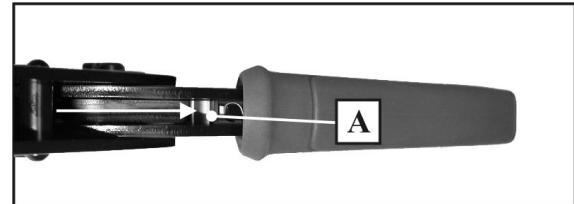

Fig. 2.
Using small screwdriver or similar tool, push the ratchet relief (A), located inside moving handle, (Fig. 2.) in direction as shown to unblock the tool, and remove obstruction before continuing with the work. With this tool **only** modular plugs of **appropriate type** have to be used. Crimping modular plugs of unsuitable type may result with unsatisfactory characteristics of crimped connections and eventually with damaging of the tools and is to be strictly avoided.